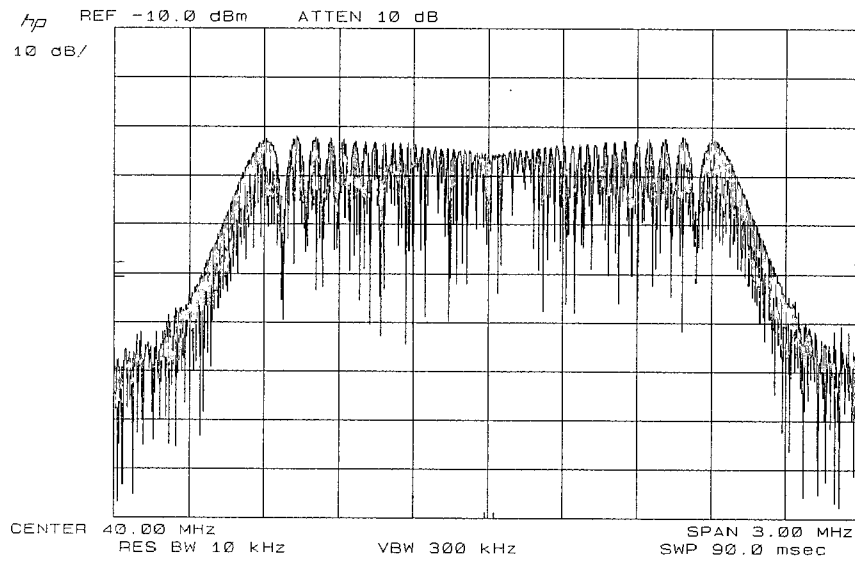

Figure 2-6. FM CW Radar
9. When the RF output signal is displayed on a spectrum analyzer, it should be as shown in Figure 2-6.